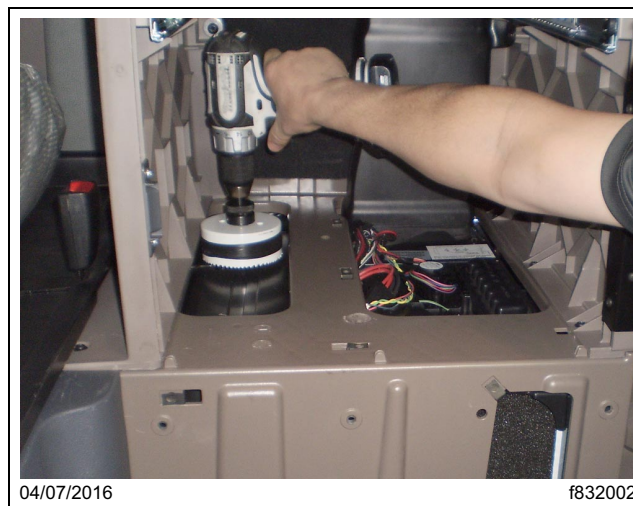

Fig. 6, Drilling the 4-inch Hole
8. Drill the inboard 4-inch hole in the top of the box. See **Fig. 6**.